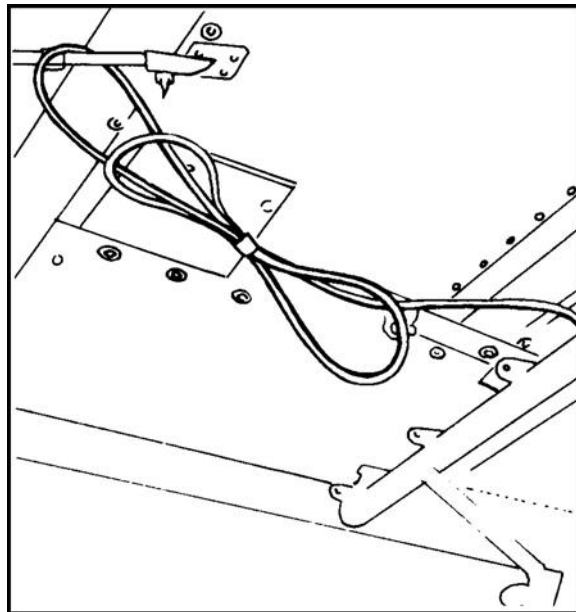

Figure 17-11. UH-60A JM's intercomm stowed overhead.
(3) Cargo doors are locked in the open position and cleared for closing, depending on mission requirements.
(4) The anchor line system is complete, serviceable, and properly installed.
(5) Three serviceable safety belts (modified) are installed on the cargo floor.
(6) A headset/helmet and intercom jack for the JM are available and operational, and the intercom extension cord is secured overhead (Figure 17-11).
(7) Safety harnesses and backpack-type emergency parachutes are available for the JM and the crew chief, as required.